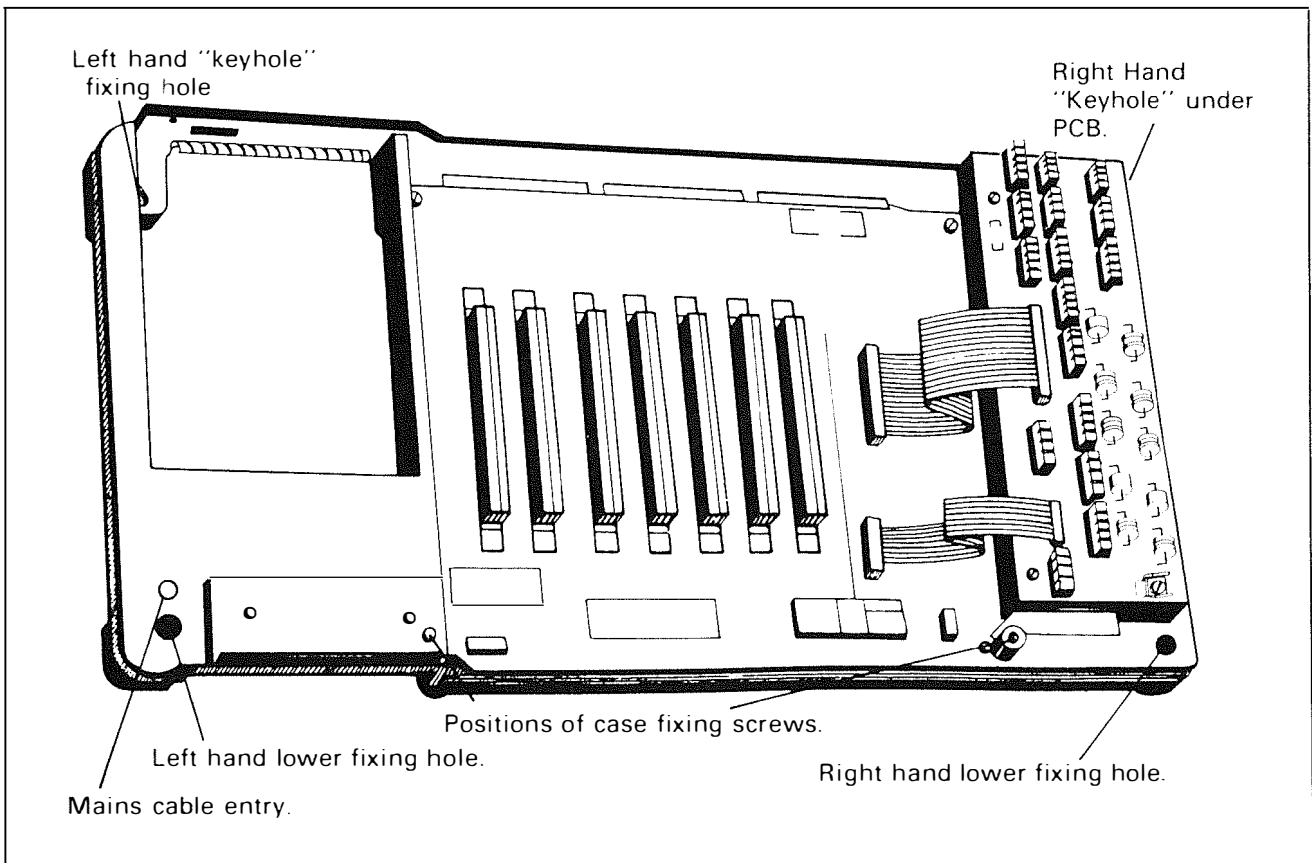

Fig 2.1 REAR MOUNTING ASSEMBLY
The Rear Mounting Assembly, see Fig 2.1, contains the 'Backplane' which is the main printed circuit board (PCB) carrying the microprocessor circuitry sockets for up to seven Line/Intercom ASUs and a secondary PCB which carries the termination blocks for exchange line and extension cable terminations. The CCU must never be transported with the Power Supply Unit in position as this will strain the mounting lugs and so cause damage.
- With the cover removed, remove the two screws holding the case to the rear mounting, see Fig 2.1.
- Feed the free end of the mains cable through the entry hole in the rear mounting assembly from the rear, see Fig 2.1. Leave about 220mm of cable free at the front of the mounting assembly.